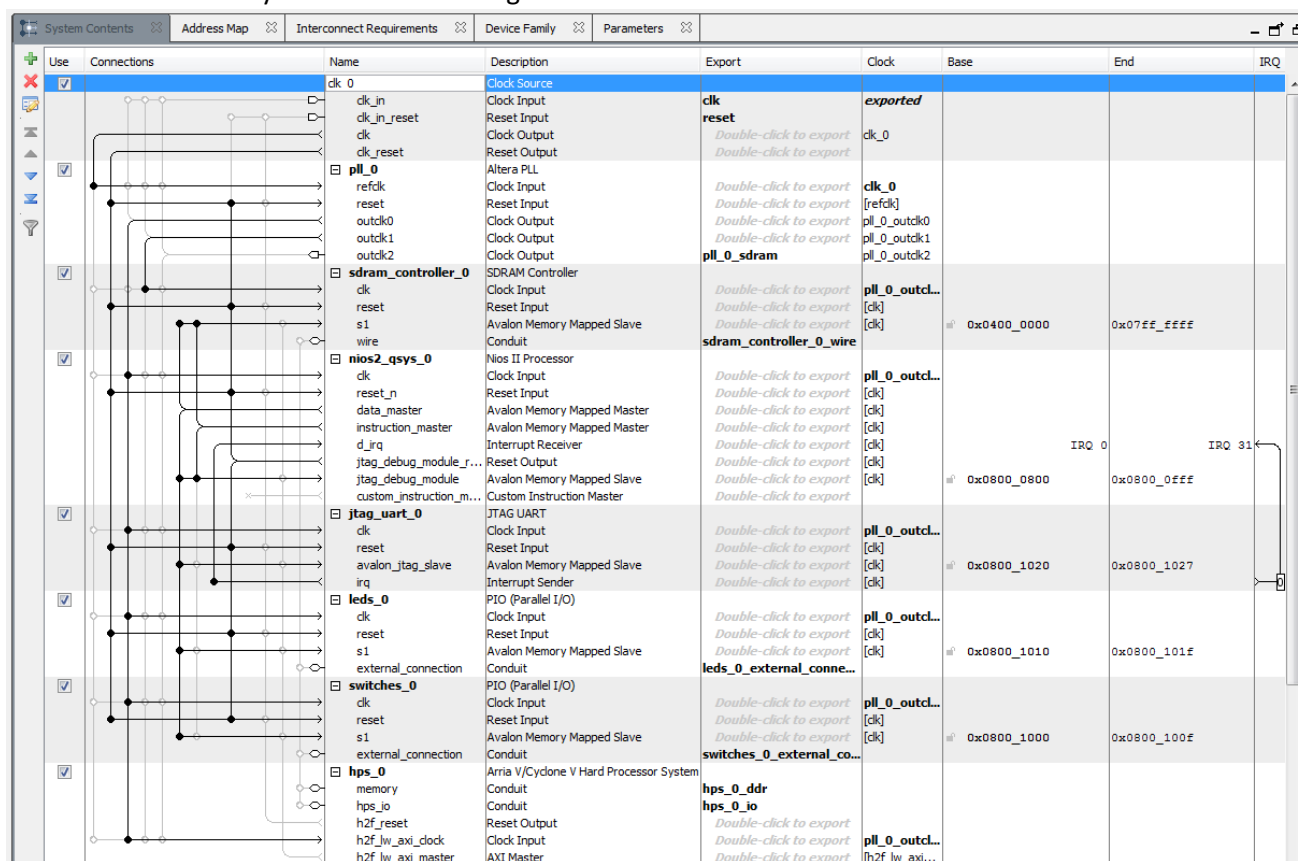

Figure 8-9. Adding the "Standalone" HPS to the System
21. Connect the system as shown in Figure 8-9 below: